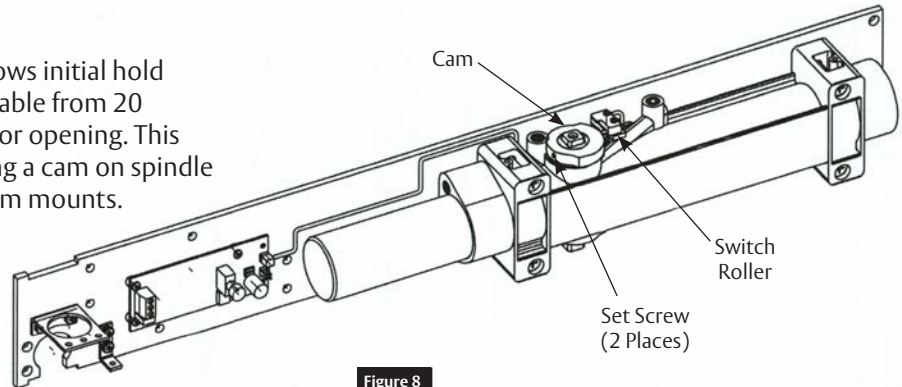

Figure 8
- Locate switch roller and cam and loosen both set screws in cam. (Figure 8)